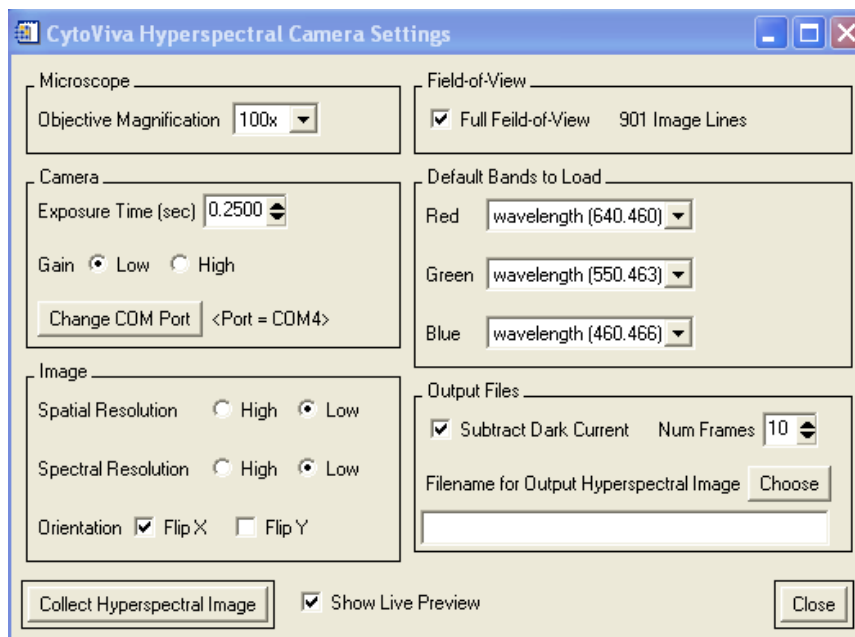

Figure 2. The control and image scanning control window
4. After a few seconds the CytoViva Hyperspectral Camera Settings window appears (see Figure 2). The dialogs in this box are used to set up the size and other attributes of the HSI image that will be acquired.